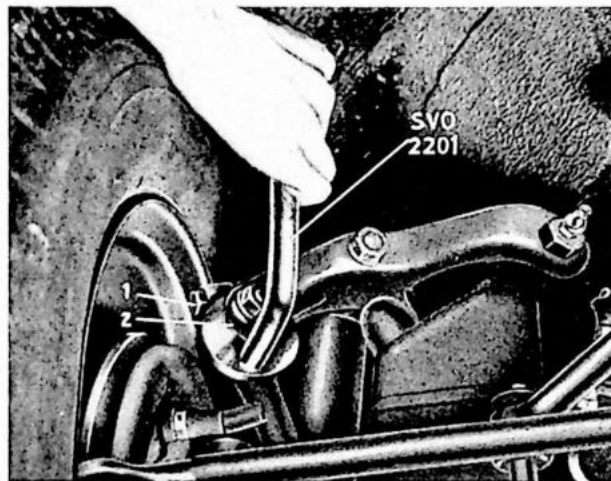

Fig. 36.
Caster should be  $-3/4^\circ$ — $+1/4^\circ$ . It is adjusted by loosening the clamp bolt (1, fig. 36) and then turning the eccentric bushing (2). Use wrench SVO 1411 B if the bushing is early production with a width across flats of 28.5 mm ( $1\frac{1}{8}$ " ) and wrench SVO 2201 if the bushing is late production with a width across flats of 31.3 mm ( $1\frac{11}{32}$ " ). One complete turn alters the angle by  $1/2^\circ$ . N.B. If the wheel has the correct camber, one complete turn must be given since otherwise the camber will be altered. Tighten the clamp bolt before checking the caster.
After caster has been checked, adjust camber. This should be  $-1/4^\circ$ — $+1/2^\circ$ . It is adjusted by loosening the clamp bolt and turning the eccentric bushing with wrench SVO 1411 B and SVO 2201 (fig. 36). Alteration of camber also means a slight alteration of caster but this is negligible.